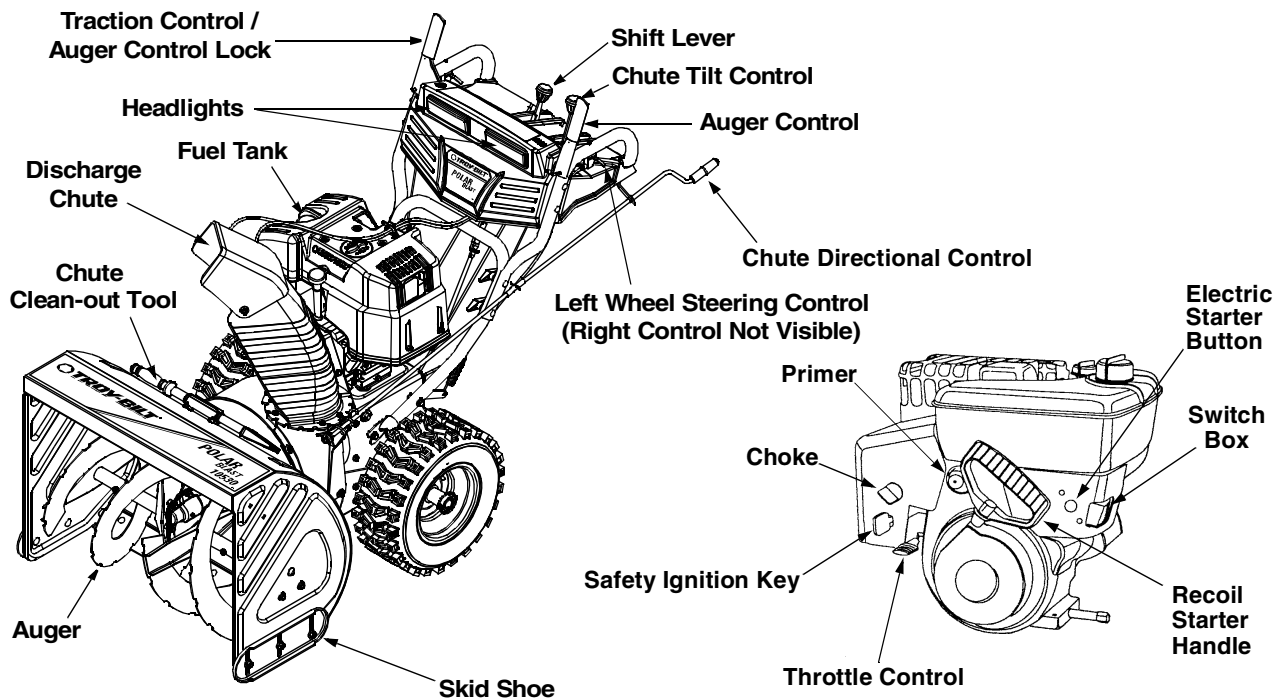

Figure 7
The distance snow is thrown can be changed by adjusting the angle of the chute assembly. Move the chute tilt control forward to decrease the distance, toward the rear to increase. See Figure 7.
The throttle control is located on the engine. It regulates the speed of the engine. See Figure 7.
The shift lever is located in the center of the handle panel and is used to determine ground speed and direction of travel. It can be moved into any of eight positions. See Figure 7.
The traction control is located on the right handle. Squeeze the traction control to engage the wheel drive. Release to stop. See Figure 7.
The chute clean-out tool (see Figure 7) is designed to clear a clogged discharge chute. Refer to page 10 for detailed instructions on how to properly use the chute clean-out tool.
- Move throttle control up to FAST position. Insert ignition key into slot. See Figure 7. Be certain it snaps into place. **Do not turn key.**
- Push the electric starter button (Refer to Figure 7) to crank engine. As you crank the engine, move choke knob to FULL choke position.
The chute clean-out tool is conveniently fastened to the rear of the auger housing with a mounting clip (Refer to Figure 7). If the discharge chute becomes clogged during operation, proceed as follows to safely clean the chute and chute opening: